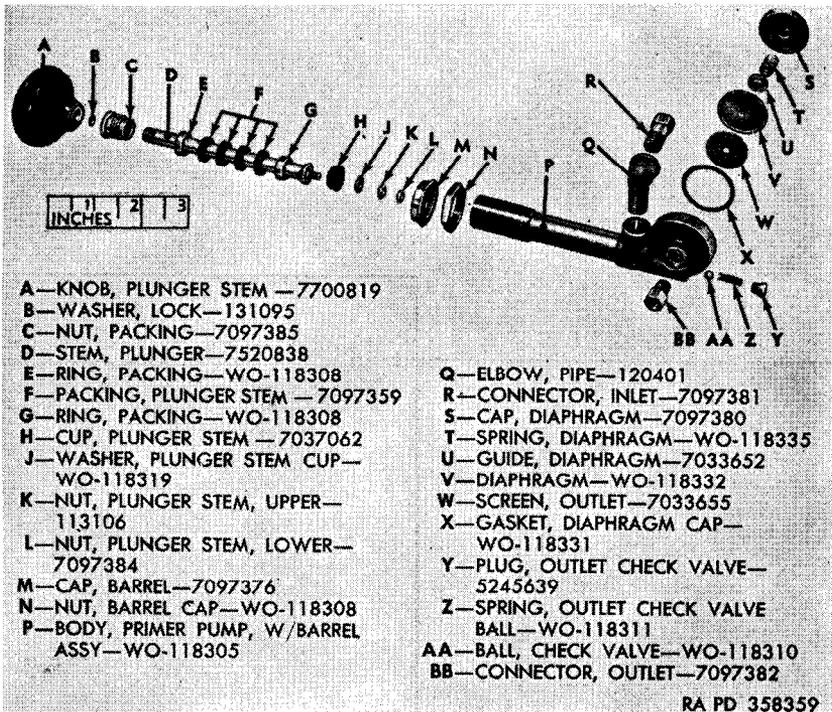

Figure 108. Primer pump—exploded view.
(fig. 108)
a. *Disassembly* (fig. 108). During removal operations, the knob and plunger assembly will be separated from the pump body. Remove upper and lower plunger stem nuts (K and L). Lift off plunger stem cup washer (J) and plunger stem cup (H). Remove plunger stem knob (A) and lift off lock washer (B), packing nut (C), two packing rings (E and G), and plunger stem packing (F). Remove diaphragm cap (S) from base of primer pump body with barrel assembly (P) and lift out diaphragm spring (T), diaphragm guide (U), diaphragm (V), outlet screen (W), and diaphragm cap gasket (X). Remove outlet check valve plug (Y), from end of primer pump body and lift out the outlet check valve ball spring (Z) and check valve ball (AA). Remove inlet connector (R) from pipe elbow (Q) and remove pipe elbow. Remove outlet connector (BB) from primer pump body.
c. Assembly (fig. 108). Place outlet connector (BB) in opening near end of primer pump body. Place check valve ball (AA), outlet check valve ball spring (Z), and install outlet check valve plug (Y). Place a new diaphragm cap gasket (X), outlet screen (W), diaphragm (V), diaphragm guide (U), diaphragm spring (T), and install diaphragm cap (S). Place packing ring (G) on threaded end of plunger stem (D), followed by four pieces of plunger stem packing (F), a second packing ring (E), and packing nut (C). Place lock washer (B) on plunger stem and secure with plunger stem knob (A). Place the plunger stem cup (H) on the opposite end of plunger stem, followed by a plunger stem cup washer (J) and upper and lower plunger stem nuts (K and L). Place barrel cap nut (N) over threaded end of primer pump body with barrel assembly (P), and barrel cap (M) over bottom of plunger stem assembly. Install pipe elbow (Q) in primer body and inlet connector (R) into pipe elbow.